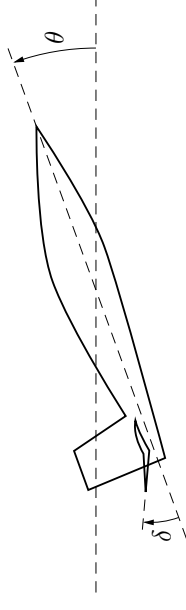

Figure 3.8a
3.8 Consider an aircraft where the pitch angle  $\theta$  is controlled by the elevator deflection (Swedish: *höjdroderutslag*)  $\delta$ , see Figure 3.8a. Let  $\omega$  be the angular velocity,